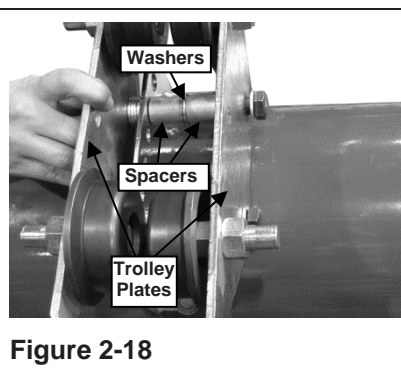

Figure 2-18
- Step 4. Slide two (2) 1in.[25mm] spacers with two (2) washers between them onto each bolt (See Figure 2-18).
- Step 7. Install the second trolley plate onto the bolts as shown below (See Figure 2-18).
- Step 8. Install two (2) M16 x 2.0 Nylok nuts and M16 flat washers onto mounting bolts.